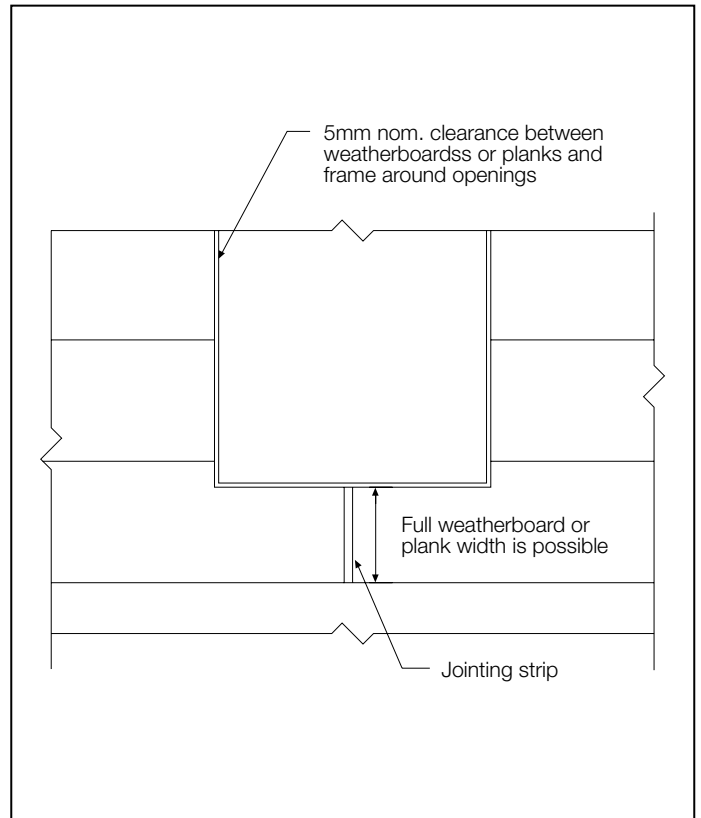

FIGURE 38 CUTTING AROUND OPENINGS
- For opening widths up to 1800mm - 1 joint minimum. Ideally, this should be located at a corner, but where joint lengths override this, the location of the joint can fall between the two corners. Refer to Figure 38.